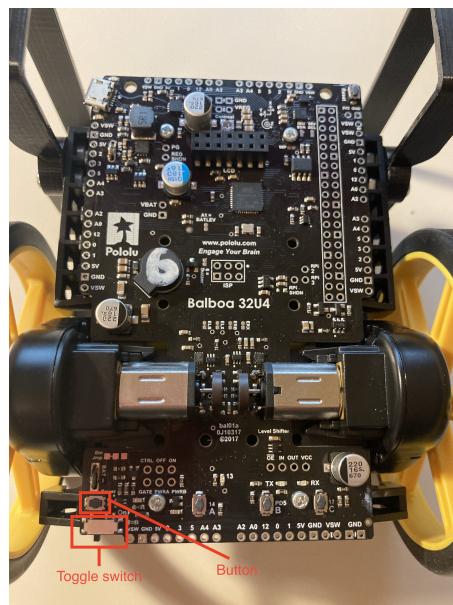

Figure 13: Board of the robot, with the concerned buttons highlighted.
3. Make sure that the toggle switch is at the left position, such as Figure 13.